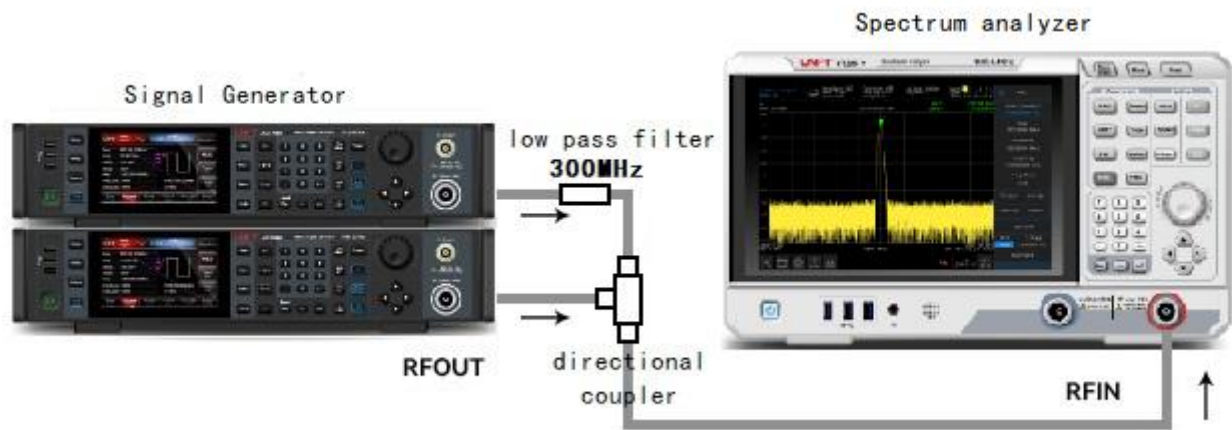

Figure 3-18 Instrument Setting of Third-Order Intercept Signal
1. As shown in Figure 3-18 to connect an instrument. Connect the input port of the spectrum analyzer via low pass filter and directional coupler, the output of the directional coupler is two-tone signal source with low intermodulation distortion. Although the distortion performance with this connection is better than the spectrum analyzer, but the TOI for measuring the signal source/spectrum analyzer combination is still useful. After the TOI performance of the signal source/spectrum analyzer combination has been calibrated, the instrument under test (DUT) (e.g., amplifier) is inserted between the output of the directional coupler and the input of the spectrum analyzer.